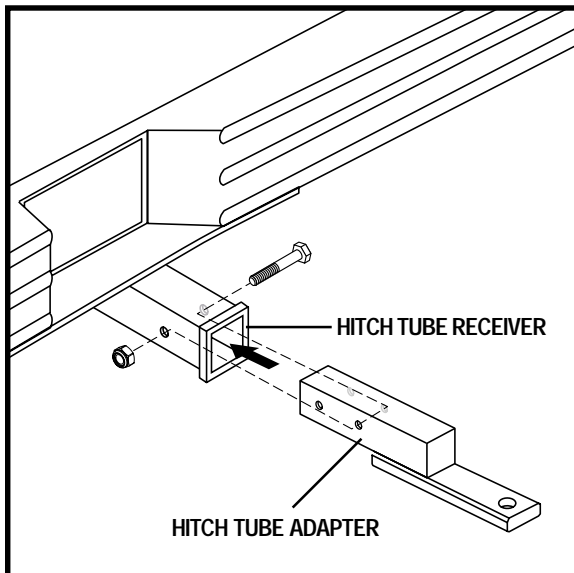

Figure 1. Hitch Adapter Installation
1. Install the hitch tube adapter into the vehicle hitch tube receiver. Insert the bolt from the passenger's side through to the driver's side of the hitch. See figure 1.